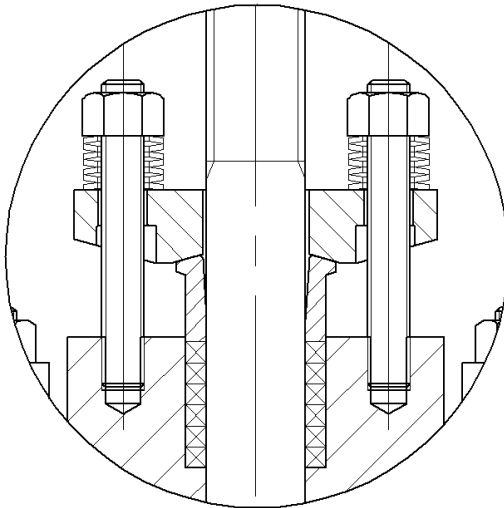

Figure 3 Valve Packing Bore Details
- 6.3.1 Relieve valve body internal pressure, loosen the eye bolts, and remove the gland flange and packing gland (see Figure 3). Lift the flange and gland as high as possible and secure for easy access to the valve packing.